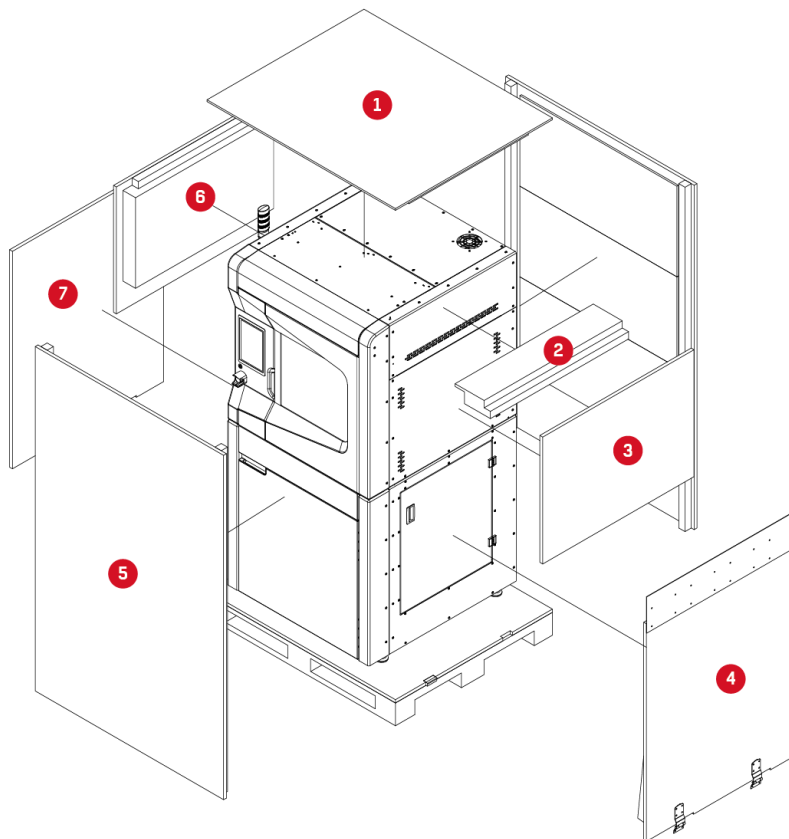

Fig. 7 Printer packaging - unpacking sequence
2. Unscrew OSBs in the order shown in Fig. 7. Put aside the boards, the Styrofoam inserts and screws. The manufacturer recommends that you keep the packaging.